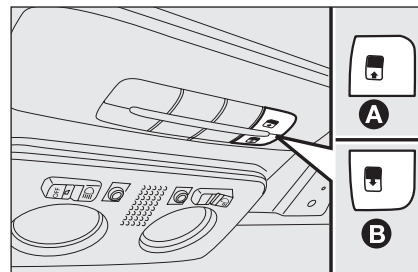

fig. 77
To close them reverse the above procedure. Sunroof only works with ignition key at **MAR**. Controls **A** and **B**-fig. 77 set on the special panel near the ceiling light shall be used to open/close the sunroof.
Press button **B**-fig. 77 and hold down to move the front glass panel to spoiler position. Press button **B** again and hold down the control for longer than half a second to start the movement of the sun-roof glass, which will continue automatically to an intermediate position (“Comfort” position).
When in fully opened position, press button **A**-fig. 77 and if the button is operated for longer than half a second, the roof front glass will automatically move to intermediate position (“Comfort” position).
- Press button **A**-fig. 77 until the roof is fully closed. Release the button;